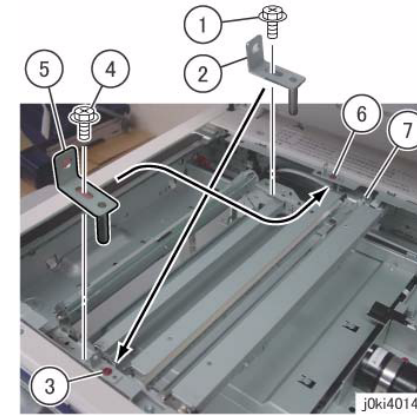

Figure 6 Secure the cable to the Full Rate Carriage
11. Secure the cable to the Full Rate Carriage at the rear side. (Figure 6)